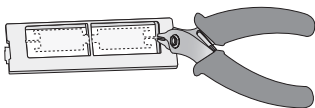

Fig. 2
3. using cutting nippers, remove from pre-perforated plastic part from the cover, making a hole corresponding to the connectors (Fig. 2);